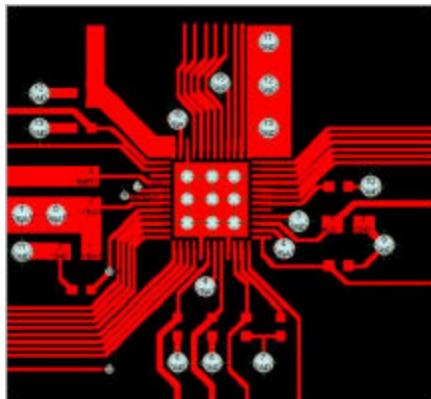

Figure 4. Top Layer of reference PCB Layout
7. See Fig4. for reference PCB layout. The thermal pad is attached to die substrate, so the thermal planes that the vias attach the package to **Must be connected to GND**.